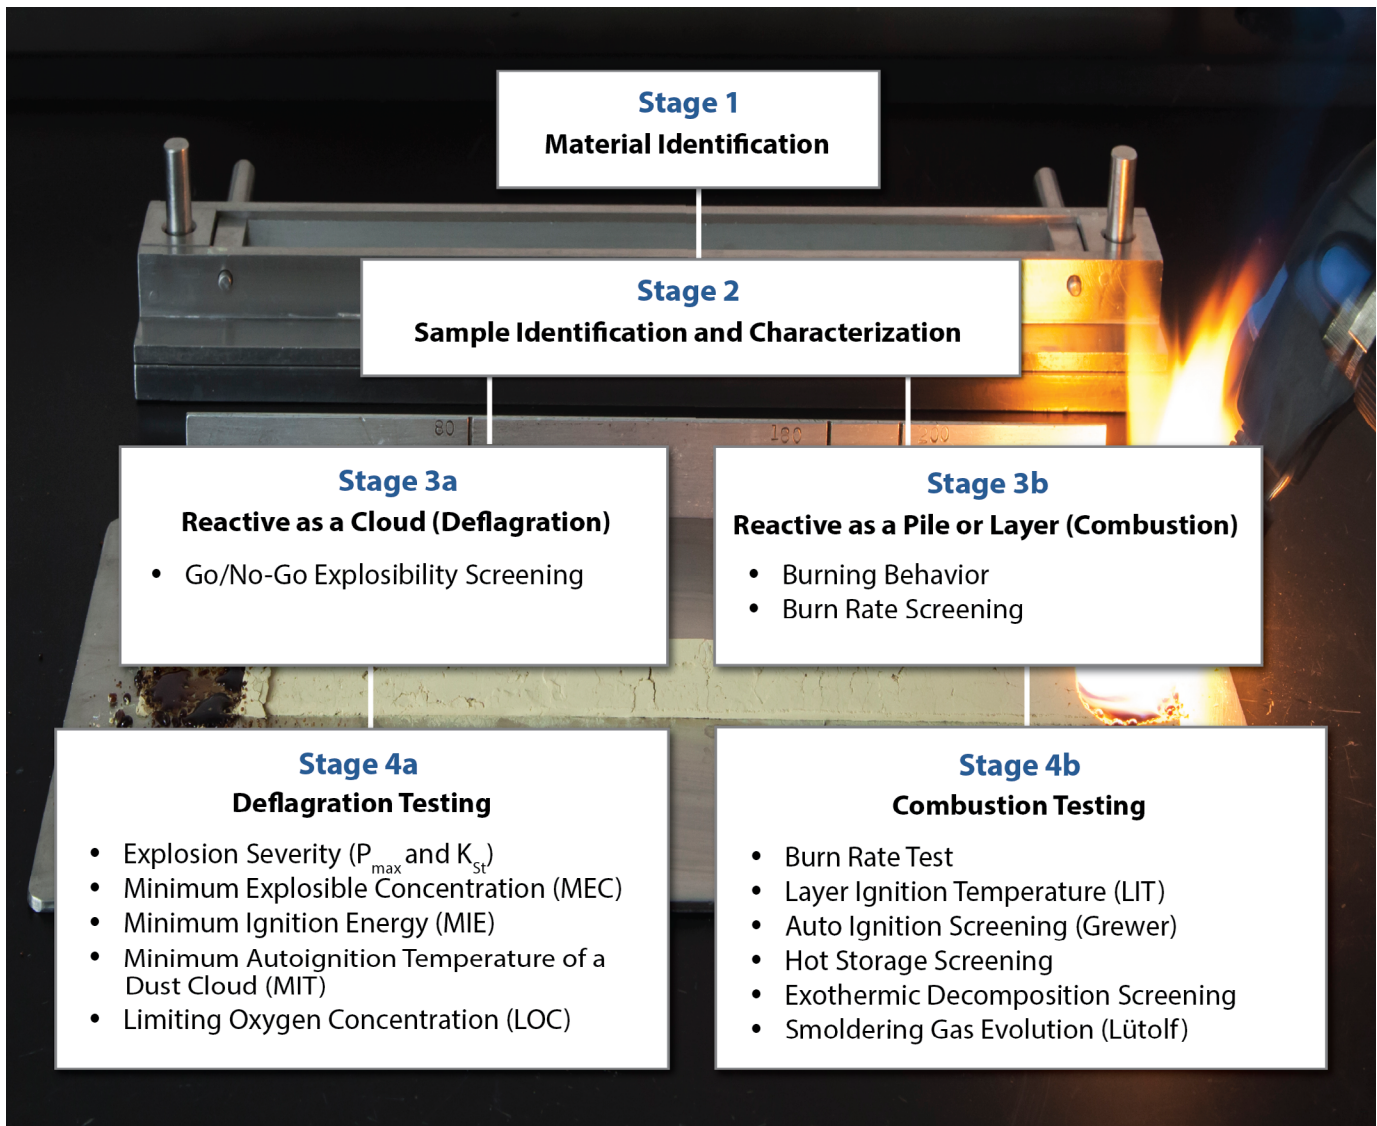

Figure 1 Dust Testing Schema
Understanding the characteristics of combustible dusts is essential to ultimately managing the risks associated with the material. The testing schema presented in Figure 1 below can be used to characterize the explosibility and combustibility of dusts. But many questions need to be answered before valid samples can be taken and tested. Mistakes can lead to wasted time and money – or worse – incorrect assessment of risk. This article provides a brief overview of the essential factors.
- **Combustibility Screening Test:** Commonly known as a “Go/No Go” test, this initial screen determines whether the particulate is “explosible”. If the material proves to be “explosible”, additional characterization should be completed to understand ignition sensitivity and explosion severity. (Stage 3a in Figure 1)
- **Ignition Sensitivity Tests:** These “before the ignition” tests are chosen based upon the environment and potential risks that may be present where the dust is generated, processed, conveyed, or stored. The most common tests answer the following questions (Stage 4a and 4b in Figure 1):
•Explosion Severity Tests: These “after the ignition” tests determine how much energy is generated when a specific dust is ignited in a contained vessel. The test results are demanded when designing explosion protection equipment (e.g., explosion relief panels, chemical isolation systems) to mitigate the effects of an explosion involving a specific material. The most common tests answer the following questions (Stage 4a in Figure 1):